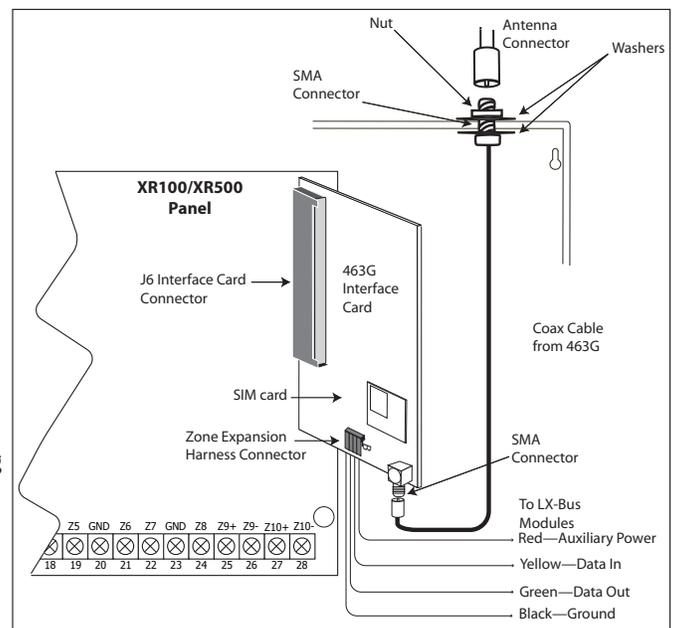

Figure 1: Install and connect the 463G and Antenna
Align the 463G card 50 pin connector with the J6 connector and press the card onto the connector while applying even pressure to both sides of the board. See Figure 1.
3. Attach the included Rubber Duck Antenna to the SMA connector. See Figure 1.